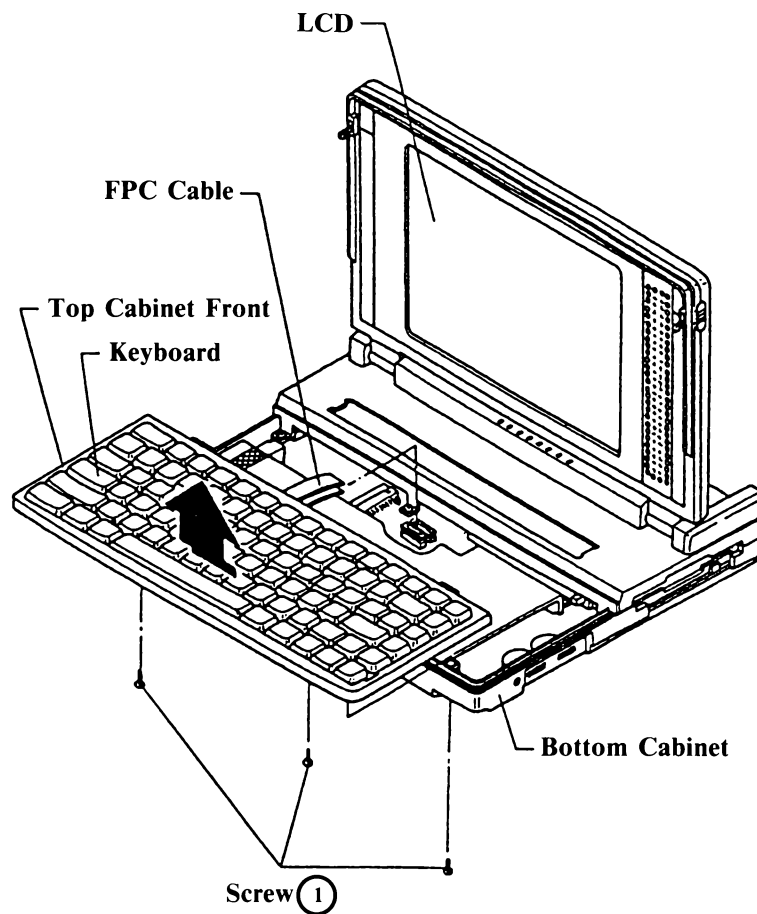

*Figure 3.1*
Remove the three screws ① from Bottom Cabinet (the cabinet bottom). (Figure 3.1)